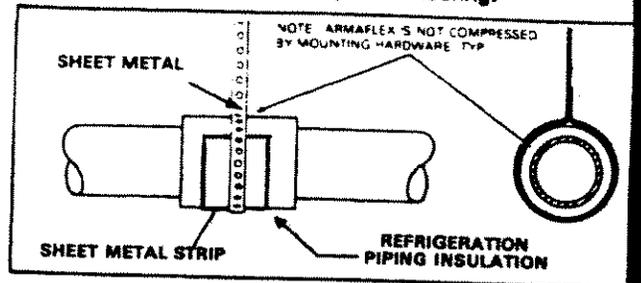

FIGURE 17
- 6 - Suspend piping at a minimum of every 5 feet using isolation hangers. A suitable hanger can be fabricated by putting a sleeve of Armaflex refrigeration piping insulation around the pipe and suspending it using a metal strapping as shown in figure 17. Place a small sheet metal strip between the Armaflex and the metal strapping to prevent crimping. Do not secure piping directly to joist or flooring.
- 3 - Suspend piping at a minimum of every 5 feet using isolation hangers. A suitable hanger can be fabricated by putting a sleeve of Armaflex refrigeration piping insulation around the pipe and suspending it using a metal strapping as shown in figure 17. Place a small sheet metal strip between the Armaflex and the metal strapping to prevent crimping. Do not secure piping directly to joist or flooring.